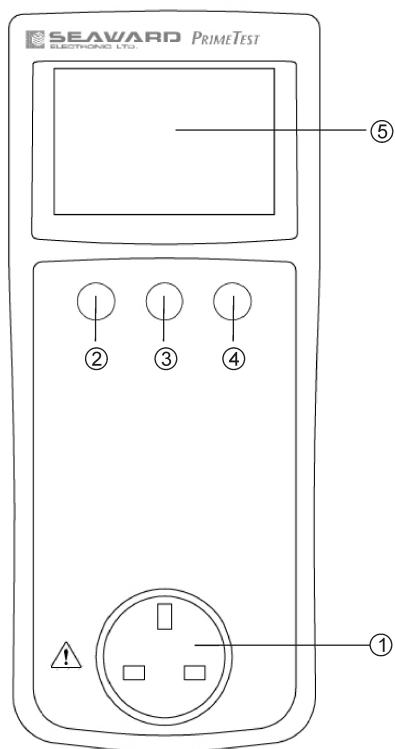
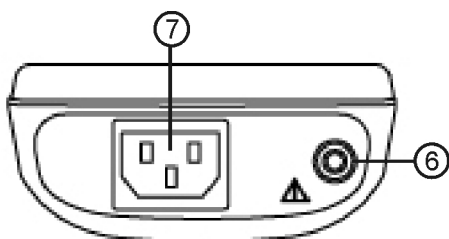

Figure 1. PrimeTest 100 Front View
Figure 2. PrimeTest 100 End View
Numbers shown in circles e.g. ① refer to figure 1 and figure 2 on page 6.